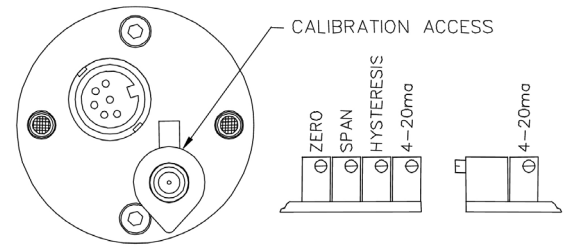

Figure 2
2. Figure 2 shows the location of the GP electrical connector and figure 3 shows the connector. Table 2 identifies the color codes.
8. If at any time during the calibration procedure the servo oscillates or becomes unstable for more than one second, turn the hysteresis potentiometer “HW” (see figure 2 for location) clockwise until the oscillation stops, then turn it one more complete turn (same direction).